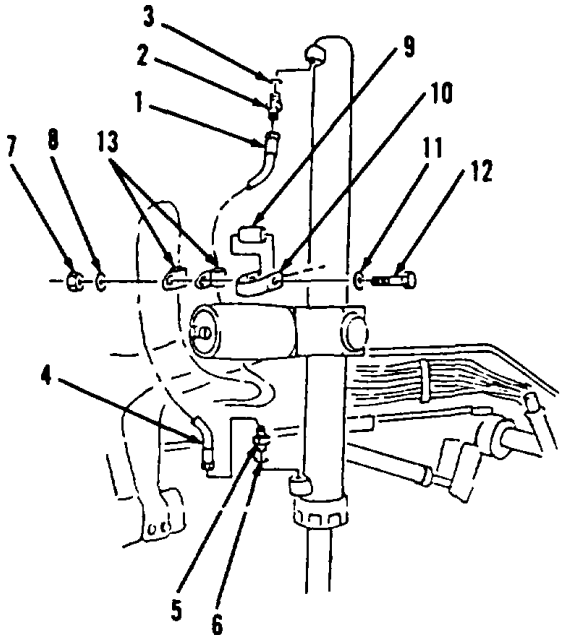

Figure 10-129.
- 14. Install bolt (12), washer (11), clamp (10), two clips (13), spacer (9), washer (8) and nut (7, Figure 10-129).